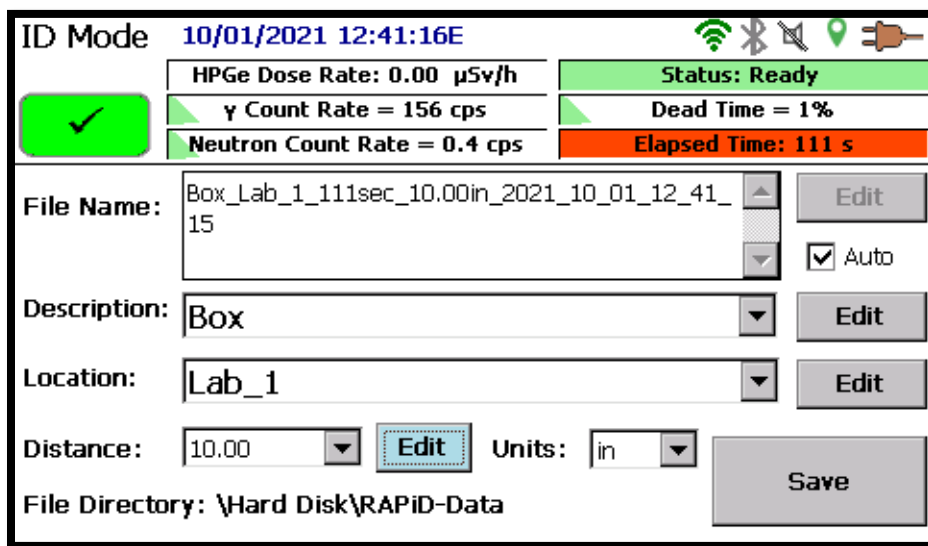

Figure 131. RAPiD ID Mode Save
- **Save** – data collection will be concluded, and the screen will change to that seen in Figure 131.